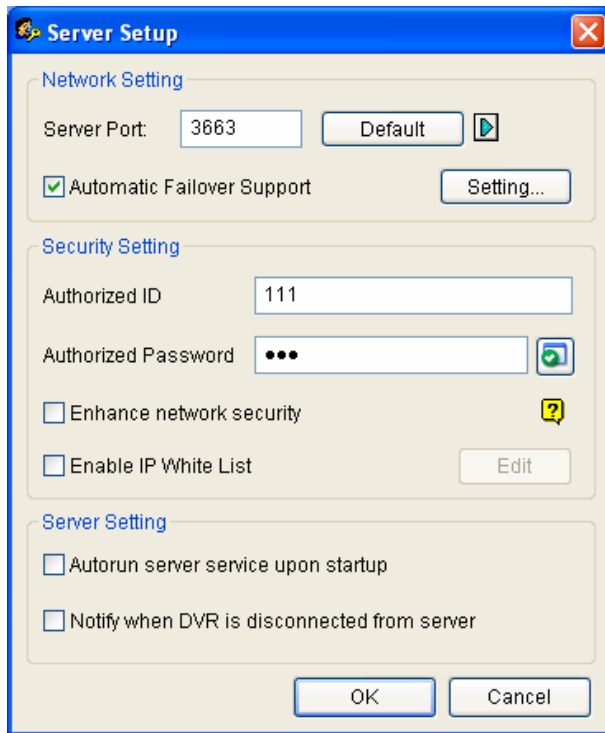

Figure 11-30 Sever Setup
- Click the **Set Up Server** button in Figure 11-30. This dialog box appears.
- Enter the IP address and port of the Authentication Server. Type the **Authorized ID** and **Authorized Password** of the Authentication Server (Figure 11-30).